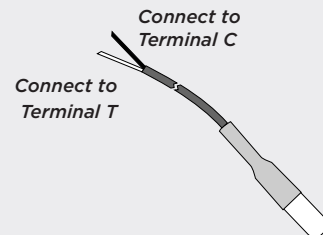

Figure 4: T280R Temperature Sensor Probe
1. Connect the white wire to the T terminal on the 1115 PCB by running it through the wire opening in the housing. See Figures 4 and 5.